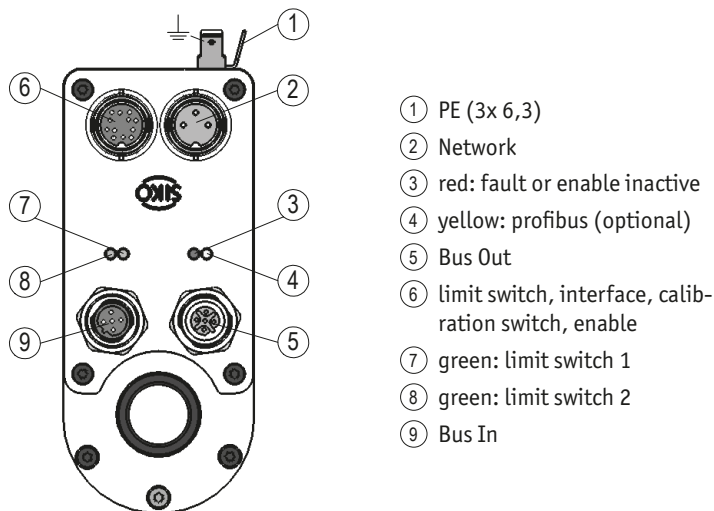
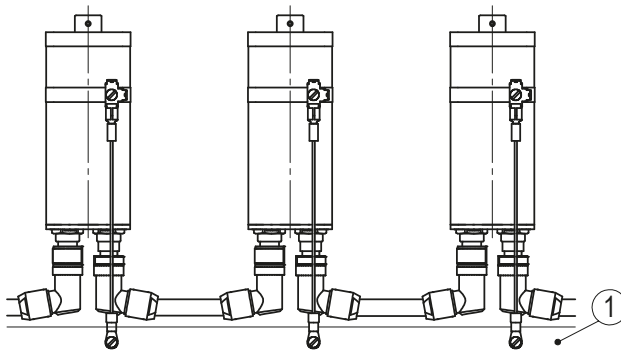

Fig. 7: Connections AG02
Fig. 10: Ground bar
The serial RS232 or RS485 interface is connected via 12-pin connector ⑥ (see Fig. 7).
The calibration switch is connected via the 12-pin connector ⑥ (Fig. 7). The input operates high-active, which means that calibration of the actuator is performed upon applying of 24 VDC to the device's + input.
The two limit switches and the enable are connected via the 12-pin connector ⑥ (Fig. 7). With the limit switch deactivated, a 24 VDC voltage must be applied on the +input. For the drive to be moved, a 24 VDC voltage must be applied on the Enable input as well.
If limit switch 1 or limit switch 2 is inactive, this is signalled by a green LED (see Fig. 7). If enable inactive, this is signalled by a red LED (see Fig. 7).
For protection against interference, the screens of the signal lines and the power line must be connected on both sides. Potential differences cause inadmissible currents on the screen. Apply the PE connection ① to the protective conductor potential below the connecting plugs (see Fig. 7). Use 6,3 mm flat connectors with short strands 2,5 mm² ... 4 mm² (not in the scope of delivery). For multiple actuators we recommend connecting the earthing to a ground bar ① (see Fig. 10).